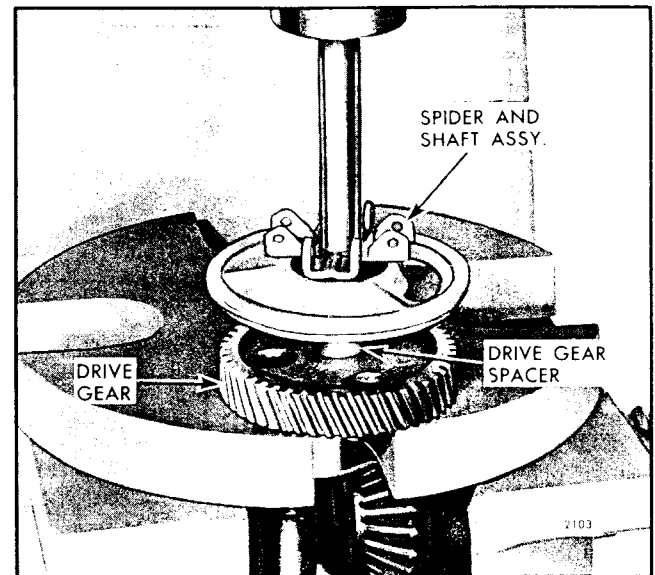

Fig. 5 - Installing Drive Gear on Spider and Shaft Assembly
12. Install the speed adjusting spring (39) on the rocker shaft lever (27) and then, using eyebolt (35), attach the spring to the governor speed control lever (49).
13. Install the idle (36) and maximum (37) speed adjusting screws and lock nuts.
15. Support the inner race of the shaft bearing (12) on an arbor press. Then press the gear end of the spider and shaft assembly (10) through the bearing until the bearing seats on the shoulder of the shaft.
16. Install the bearing housing (43) on the bearing (12) and retain it with an internal snap ring (11).
17. Support the governor drive gear on an arbor press. Then, with the drive gear spacer (45) on the shaft and the key (52) installed in the keyway, press the spider and shaft assembly (10) into the gear (46) until the gear bottoms against the spacer and bearing (12), as shown in Fig. 5. Install the drive gear retaining nut (53) and tighten it to 125-135 lb-ft torque.
18. Install the flyweights (7) on the spider and shaft assembly with supporting pins (8). Retain the pins in place with hair pin clips or retainer rings (9) at the unknurled ends.
19. Support the inner race of the three-piece thrust bearing (5) on an arbor press and press the riser (6)